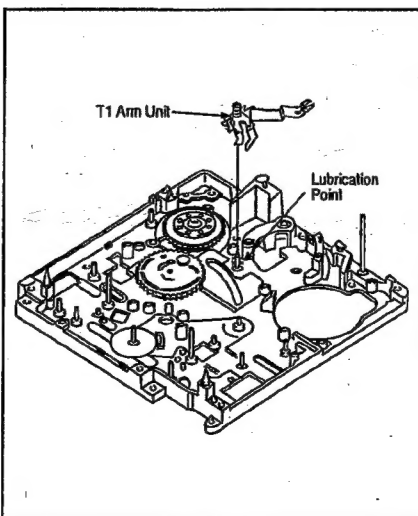

Fig. M27
14. Radon Plate, Radon Arm & T1 Arm Fig. M27 Then connect the locking portion (A) and (B).